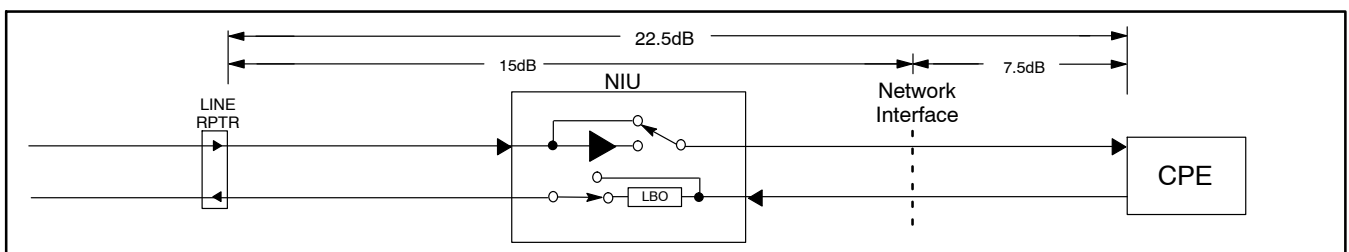

Figure 2. Metallic T1 Span Applications
2.1.1.1 Normal T1 span design allows from 0 to 15dB of loss from the last repeater in the span to the customer interface and a maximum loss of 7.5dB for inside wiring to the CPE (see Figure 2). This represents a total loss of 22.5dB. This mode provides a receive transmission path that can be configured to pass the signal from the span to the CPE with either no net regeneration or with the optional regenerator to 0dB DSX. The optional regenerator in this path can be used in applications where the maximum loss of 22.5dB to the CPE cannot be achieved otherwise, or in special situations where the customer requires a 0dB DSX handoff.